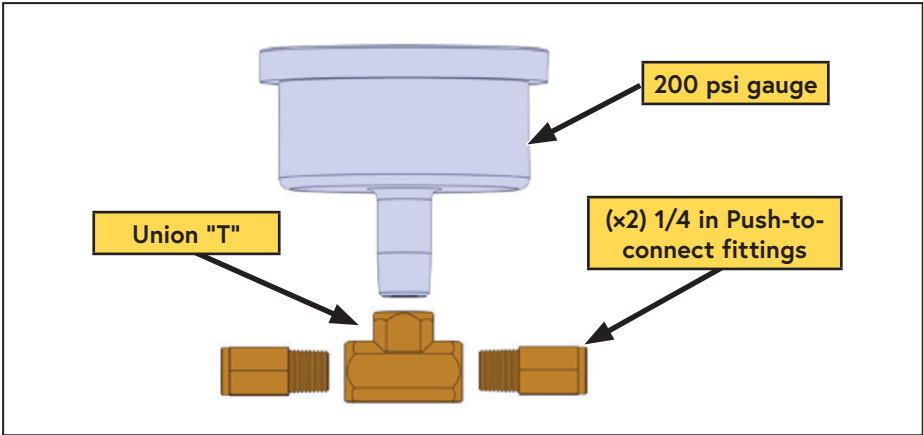

Figure 41 — PTFE Test Tool
To properly diagnose the G30, a VMAC Air Test Tool (P/N: A700052), or equivalent, is required. For testing and diagnosis, install the 30 cfm (1/8 in) orifice (Figure 41).
A PTFE test tool can be constructed and used to test the unloader valve and throttle actuator function (Figure 41).
- ☐ Install the PTFE test tool (Figure 41 on page 69 on the 1/4 in throttle tube (Figure 53).